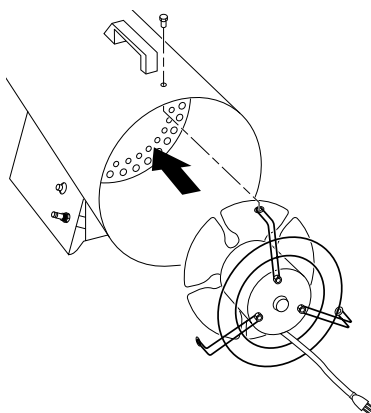

Figure 9 - Replacing Motor and Fan Guard into Heater
9. Place motor and fan guard into rear of heater shell. Make sure power cord is properly located (see Figure 9).